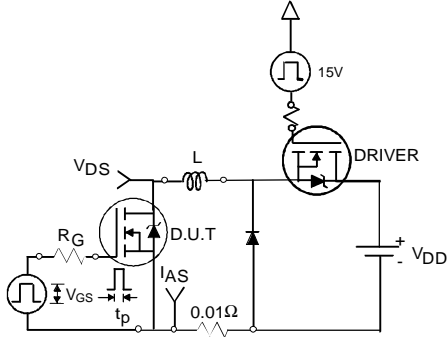

Fig 12a. Unclamped Inductive Test Circuit
- ② Starting $T_J = 25^\circ\text{C}$, $L = 0.38\text{mH}$, $R_G = 25\Omega$, $I_{AS} = 29A$. (See Figure 12a)
- ③ $I_{SD} \leq 29A$, $di/dt \leq 420A/\mu s$, $V_{DD} \leq V_{(BR)DSS}$, $T_J \leq 150^\circ\text{C}$
- ④ Pulse width $\leq 300\mu s$; duty cycle $\leq 2\%$.
- ⑤ $C_{oss\ eff.}$ is a fixed capacitance that gives the same charging time as C_{oss} while V_{DS} is rising from 0 to 80% V_{DSS}
- ⑥ Calculated continuous current based on maximum allowable junction temperature. Package limitation current is 30A.